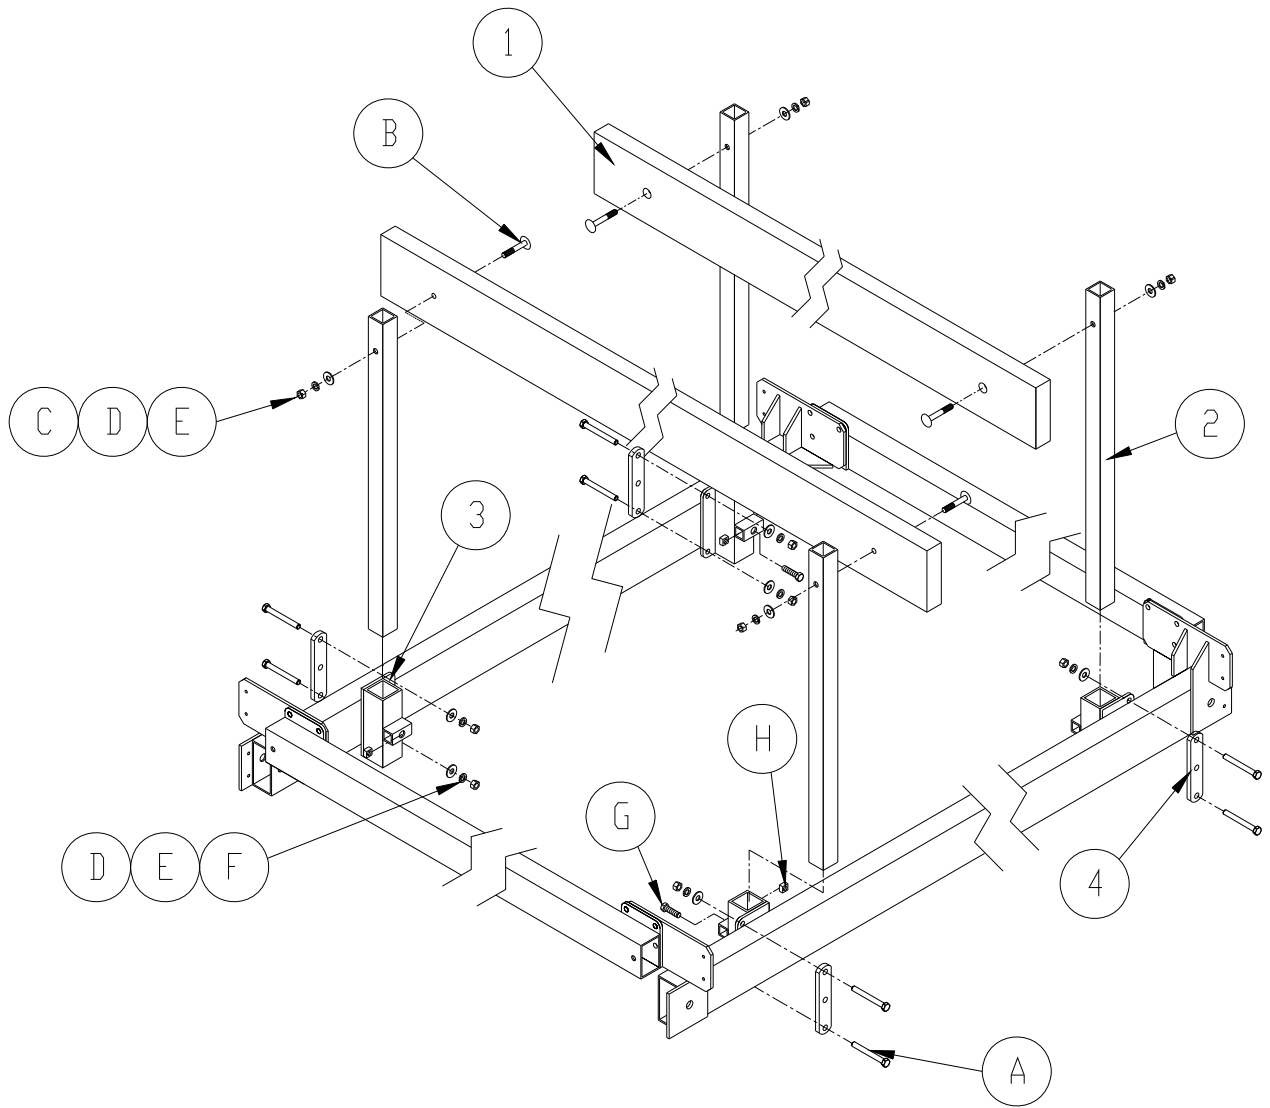

Figure 1
6. Once the guide ons with support posts are fastened into place in the mounting brackets, position the guide ons to the desired location and tighten the bronze nuts on the hex bolts to fasten into place. Refer to Figure 1.